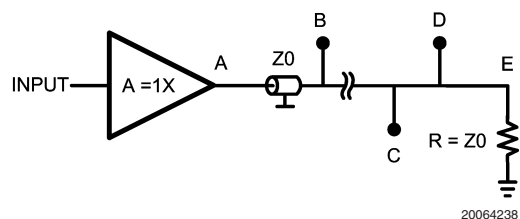

FIGURE 2.
- Use one buffer to drive to multiple points on one transmission line (see *Figure 2*)
Another transmission line possibility is to route the trace via several points along a transmission line (see Figure 2). This is only possible if care is taken to observe certain restrictions. Failure to do so will result in impedance discontinuities that will cause distortion of the signal. In the configuration of Figure 2 there is a transmission line connected to the buffer output and the end of the line is terminated with Z_0 . We have seen in the section 'Connecting a load using a transmission line' that for the condition above, the signal throughout the entire transmission line has the same value, that the value is the nominal value initiated by the opamp output, and no reflections occur at the end point. Because of the lack of reflections no interferences will occur. Consequently the signal has everywhere on the line the same amplitude. This allows the possibility of feeding this signal to the input port of any device which has high ohmic impedance and low input capacitance. In doing so keep in mind that the transient arrives at different times at the connected points in the transmission line. The speed of light in vacuum, which is about 3×10^8 m/sec, reduces through a transmission line or a cable down to a value of about 2×10^8 m/sec. The distance the signal will travel in 1ns is calculated by solving the following formula: